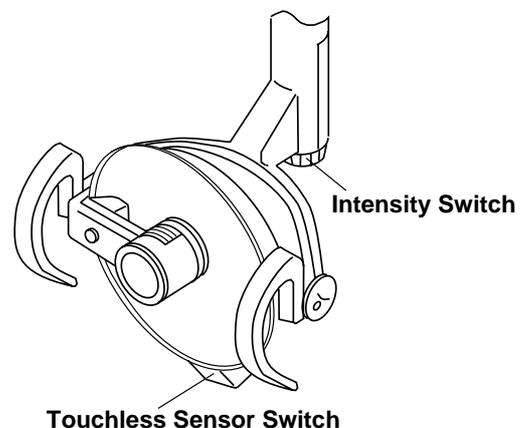

Fig.3-16 Touchless Sensor Switch and Intensity Control Switch
(2) Touchless Sensor Switch (Fig.3-16)
(3) Intensity Control Switch (Fig.3-16)